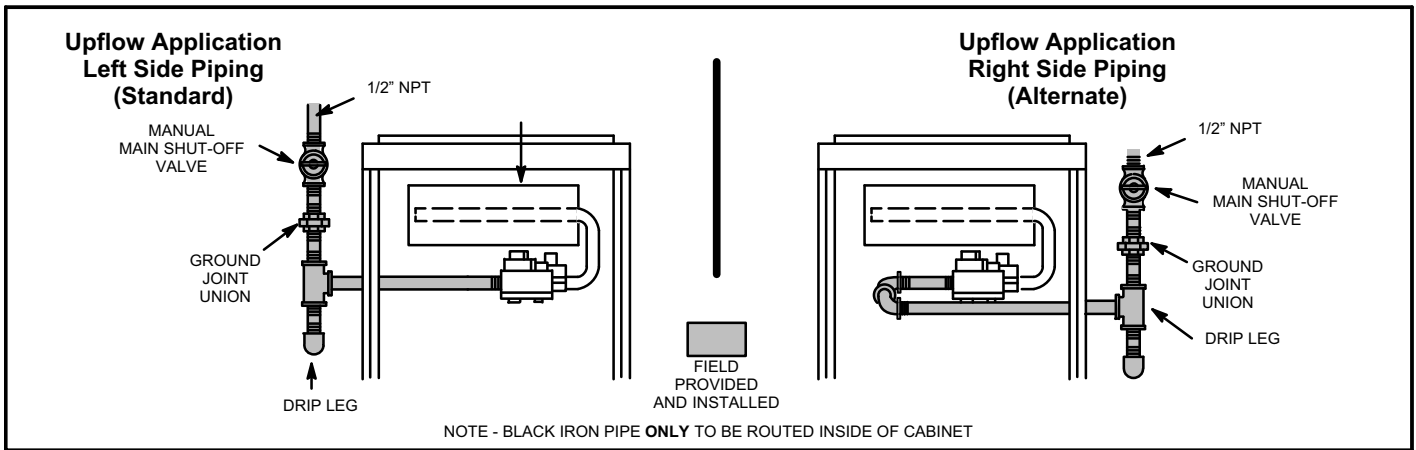

FIGURE 41
- 1 - Gas piping may be routed into the unit through either the left- or right-hand side in upflow applications, and either the top or bottom in horizontal applications. Supply piping enters into the gas valve from the side of the valve as shown in figures 41 and 42.
- 3 - Gas piping must not run in or through air ducts, clothes chutes, chimneys or gas vents, dumb waiters or elevator shafts. Center gas line through piping hole. Gas line should not touch side of unit. See figures 41 and 42.